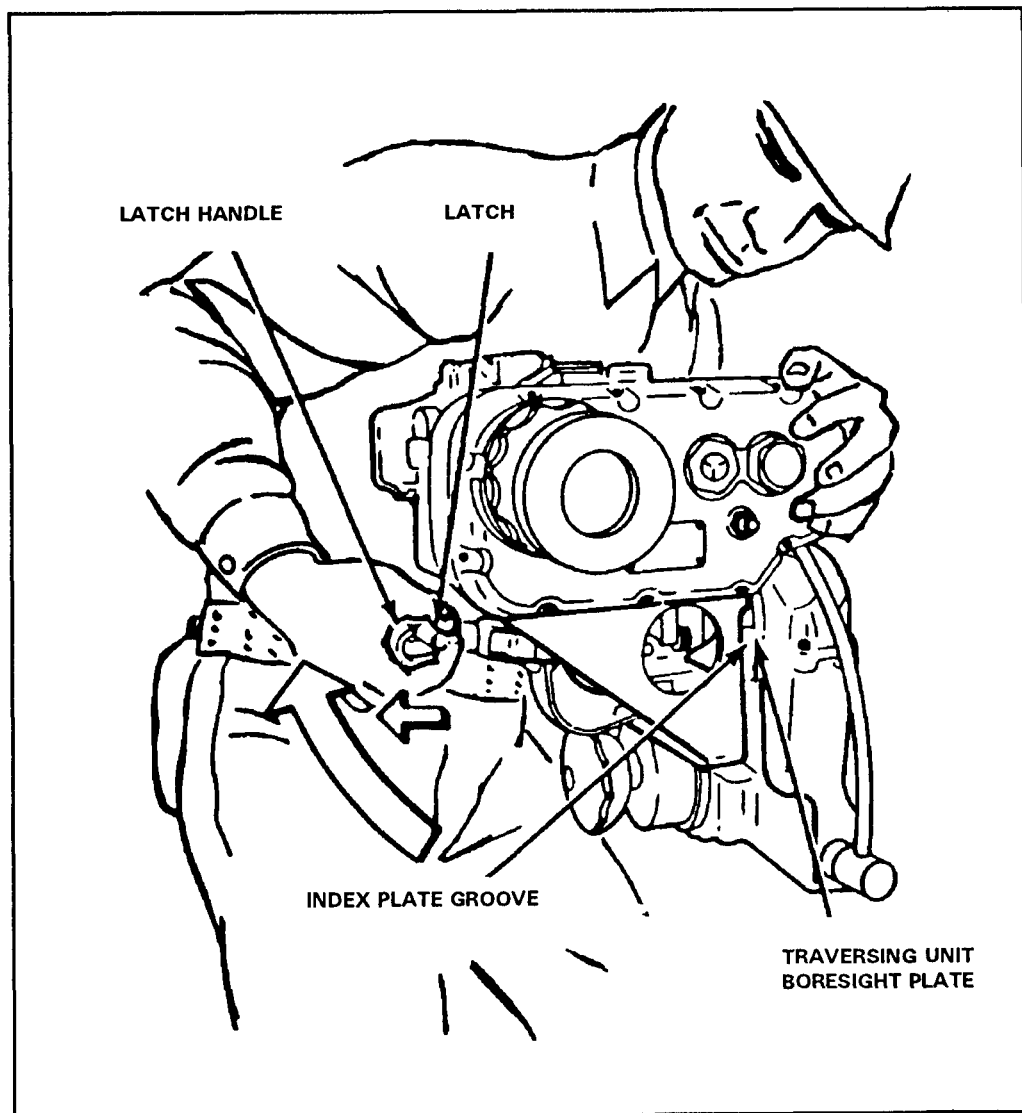
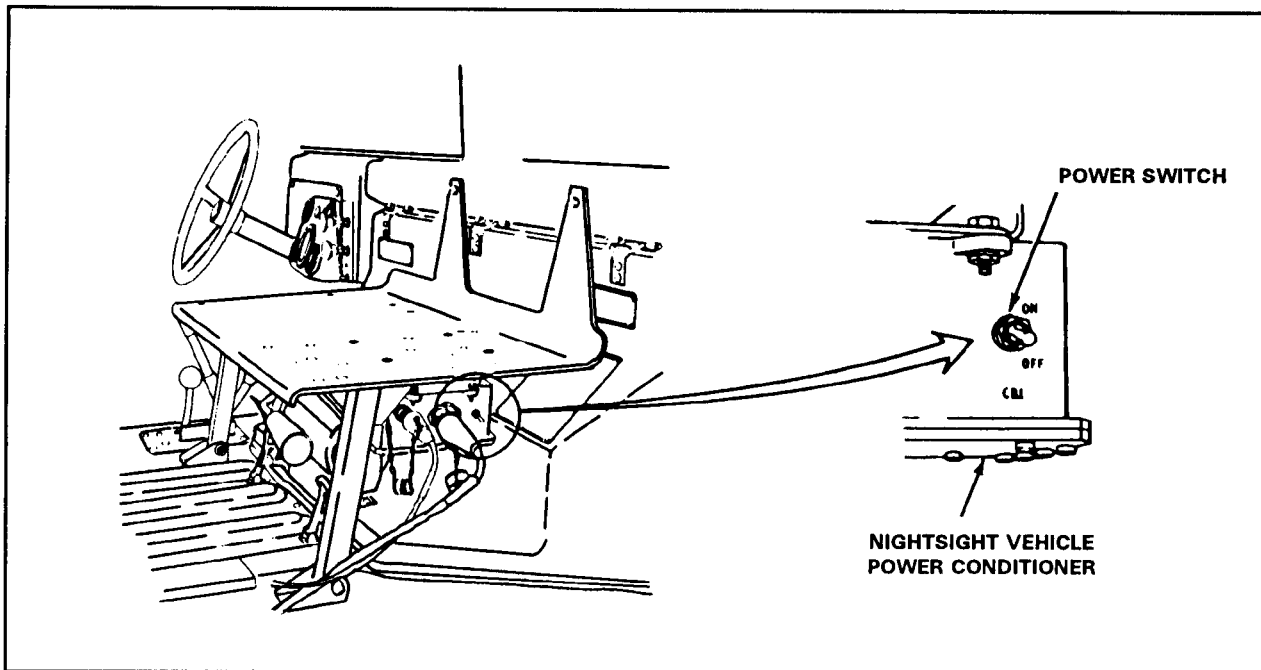
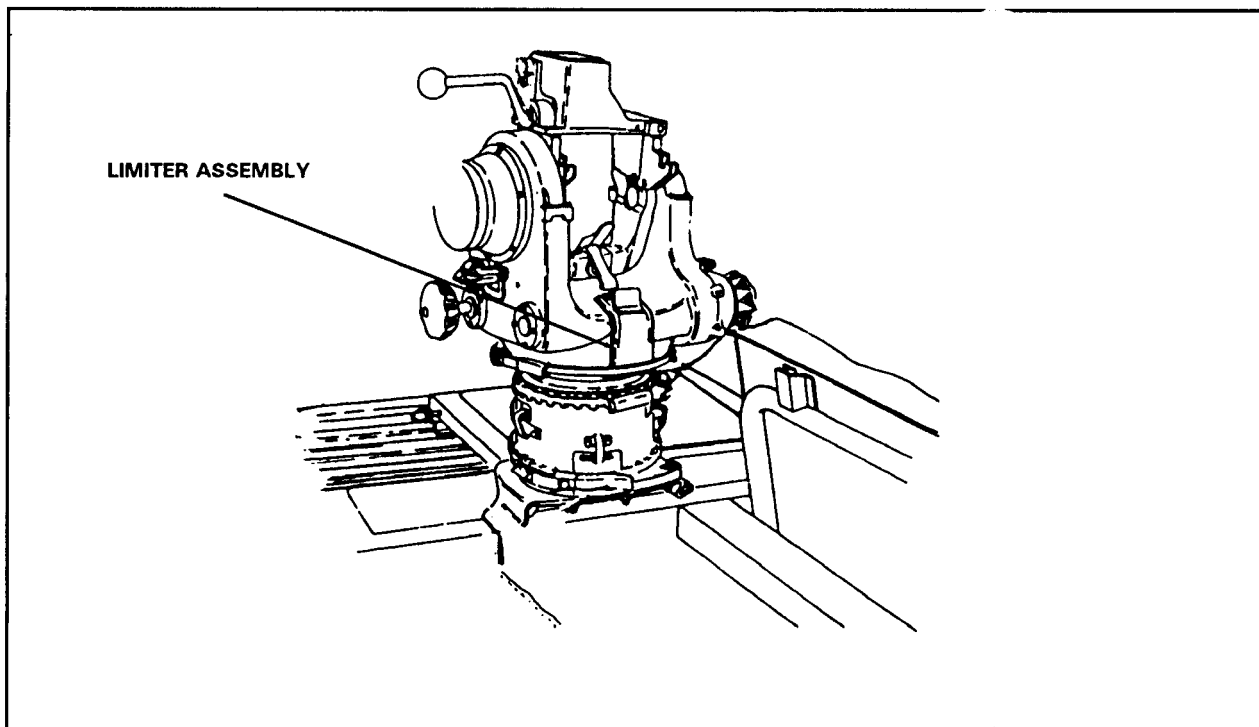

Figure 3-11. Daysight tracker on traversing unit boresight plate.
Figure 3-12. Nightsight power cable 2W2, J1 connector, and vehicle power conditioner.
Figure 3-13. Limiter assembly location.
(1) The driver-loader hands the daysight tracker to the gunner.
(2) The gunner mounts the daysight tracker on the traversing unit boresight plate. He secures the daysight tracker by locking the latch handle (Figure 3-11, page 3-12).
(3) The driver-loader stows the nightsight case in its bracket.
(4) The squad leader connects connector P2 of the TVPC power cable to the power conditioner cable.
(5) The squad leader unwinds the nightsight power conditioner cable and TVPC cable and hands both to the gunner.
(6) The gunner connects the nightsight power cable 2W2 to the nightsight input power conditioner J1 (Figure 3-12, page 3-13), then connects the TVPC power cable P1 to connector J1.
(7) The squad leader turns on the TVPC.
(8) The gunner turns on the power conditioner.
(9) The gunner checks steps 10 through 15 of system self-test on TOW 2 (positions 1 and 7 on basic TOW), then collimates the nightsight.
**NOTE:** The limiter assembly limits elevation to 20 degrees and depression to 10 degrees. If the limiter is used, the gunner makes sure both elevation and depression limiters are in the up position and pinned (Figure 3-13, page 3-13).